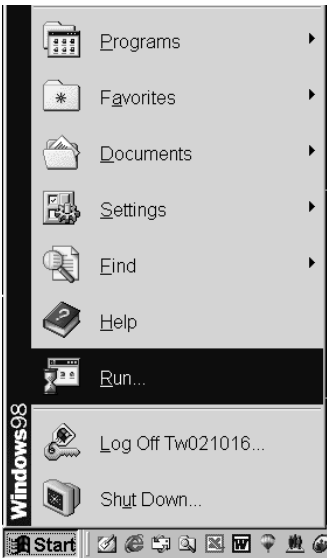

Fig. 4
- 2. Click **Start**, choose Run at start menu of Windows 95/98 as shown in Fig. 4.